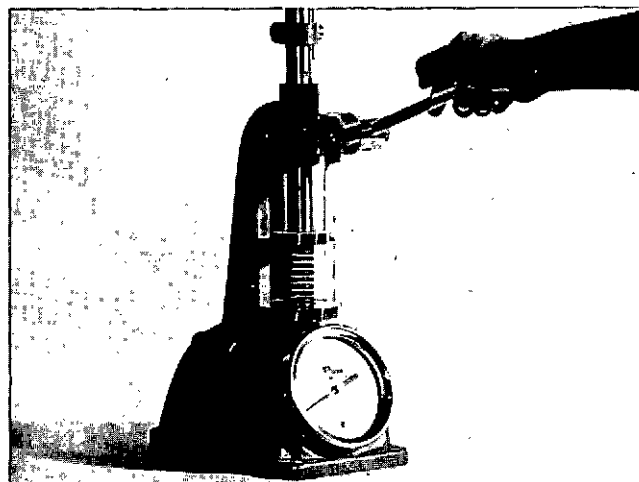

Fig. 2-5-8, V10214. Test valve spring tension
1. Test valve spring on spring tester that is capable of very accurate measurements of spring lengths by means of standards as listed in Group 18 and dial indicator gauge. Fig. 2-5-8.